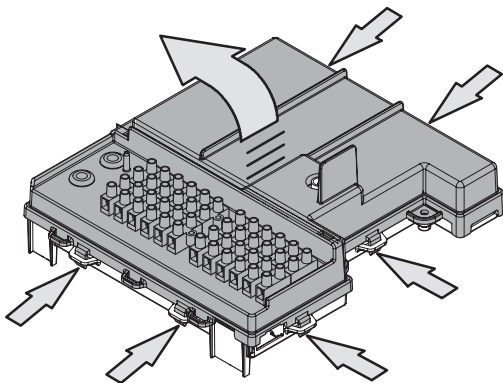

Figure 2.9
- 7 Free the hooks placed on the three sides indicated and rotate the lid towards left (Figure 2.9).